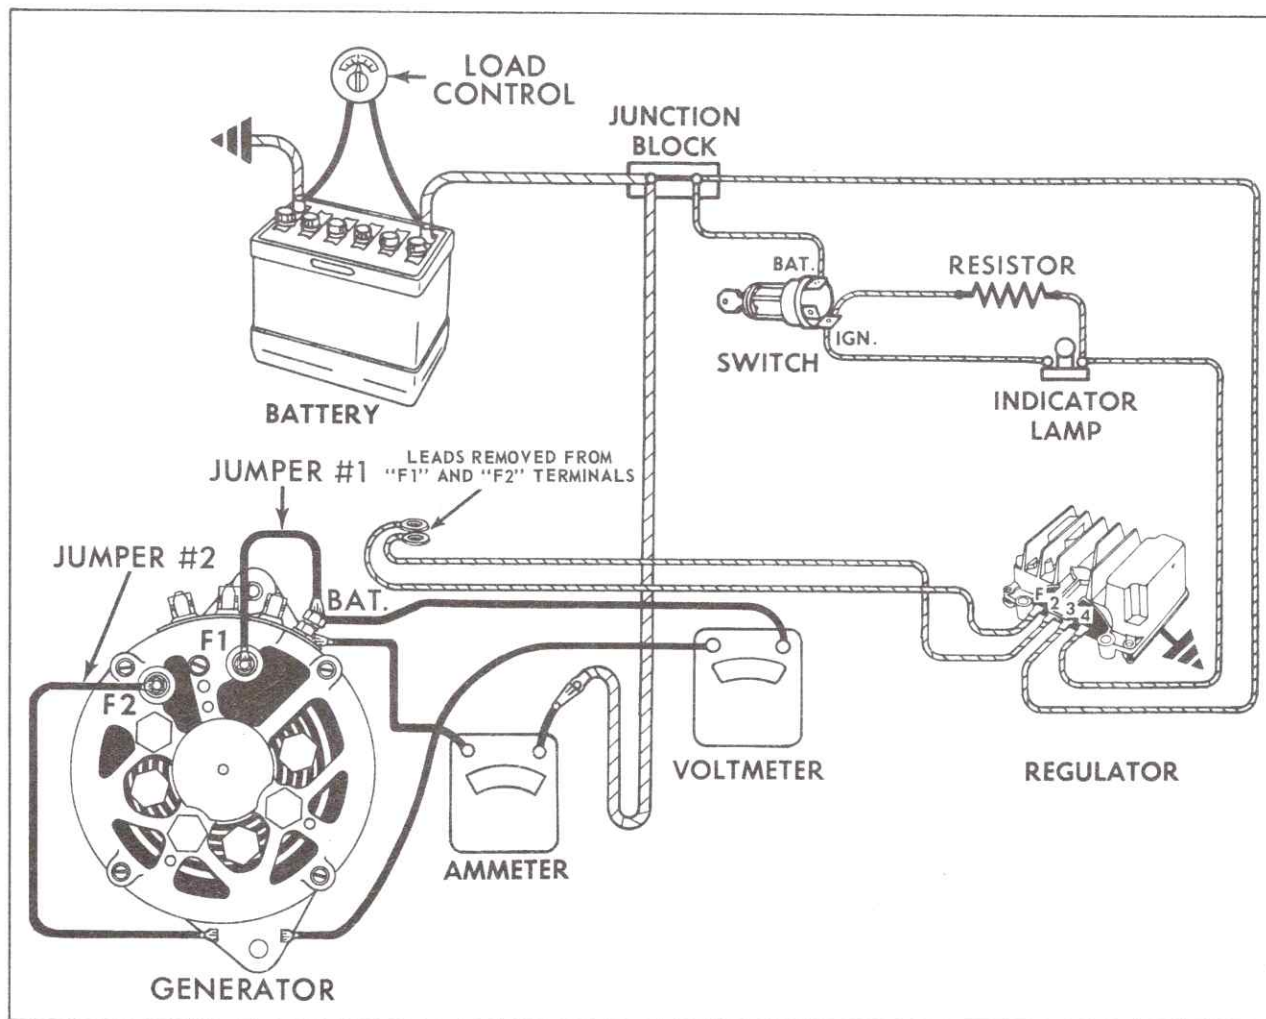

Fig. 6-55 Generator Output Test Leads
1. Connect an ammeter in the circuit at the generator "BAT" terminal, Fig. 6-55.
2. Connect a voltmeter from "BAT" terminal of generator to ground, Fig. 6-55.
3. Disconnect normal lead to "F2" terminal and connect a jumper wire between "F2" terminal and ground, Fig. 6-55.